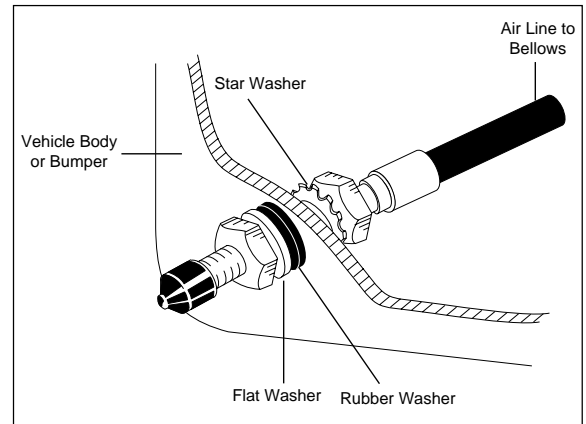

Figure 7
11. Use a standard tube cutter, a razor blade, or very sharp knife to cut the air line. A clean square cut will ensure against leaks. Cut the air line in two equal lengths. Drill $\frac{5}{16}$ " hole for the inflation valve and mount in a convenient location to adjust air pressure as illustrated. Rubber washer on outside is for weather seal (Figures 7 & 8).